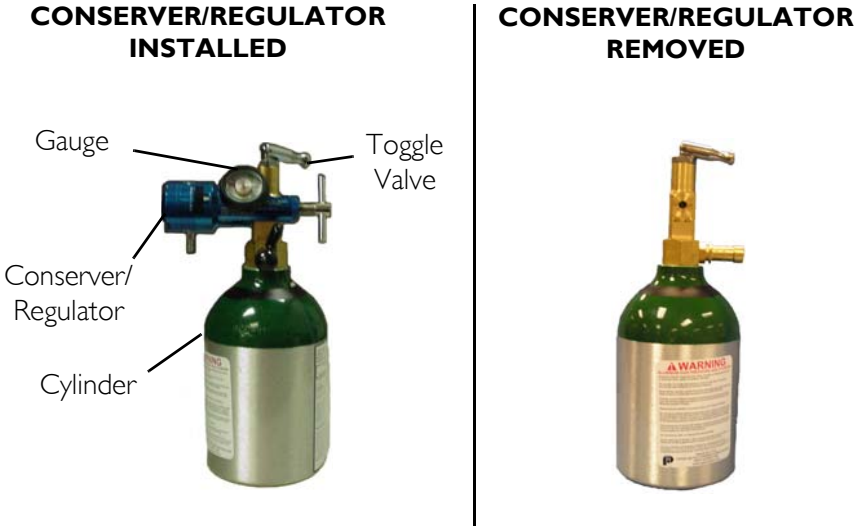
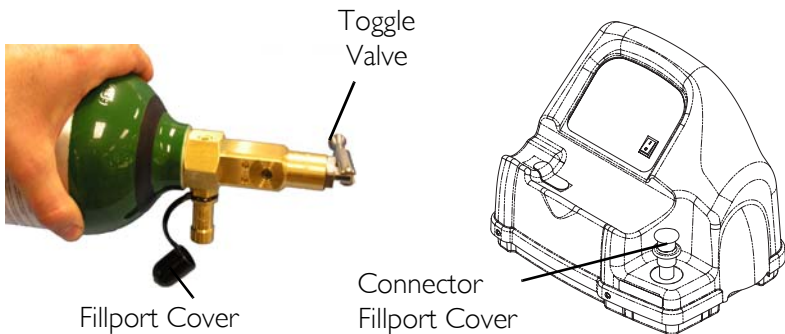

FIGURE 4.2 Component Identification
FIGURE 4.7 Connector Fillport
NOTE: For this procedure, refer to FIGURE 4.2 on page 14.
NOTE: For this procedure, refer to FIGURE 4.2 thru FIGURE 4.7.
2. Close the toggle valve by rotating clockwise (FIGURE 4.2).
3. Remove the conserver or regulator according to the device manufacturer instructions (FIGURE 4.2).
17. Place the fillport covers onto the connector fillport (located on the compressor) and post valve fillport (located on the cylinder) (FIGURE 4.7).